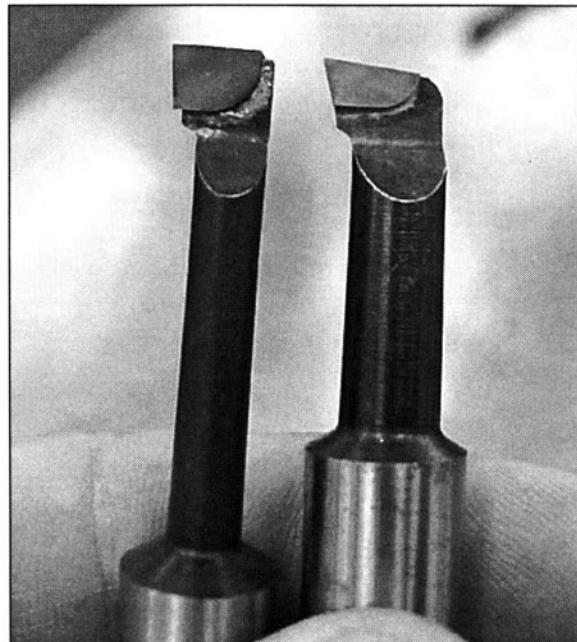

FIGURE 7-8 Small boring bars ground with a lot of clearance have less tendency to push away and make holding tight tolerances easier.
9. *Put a lot of clearance on small boring bars to hold tight tolerances. (See Fig. 7-8)*